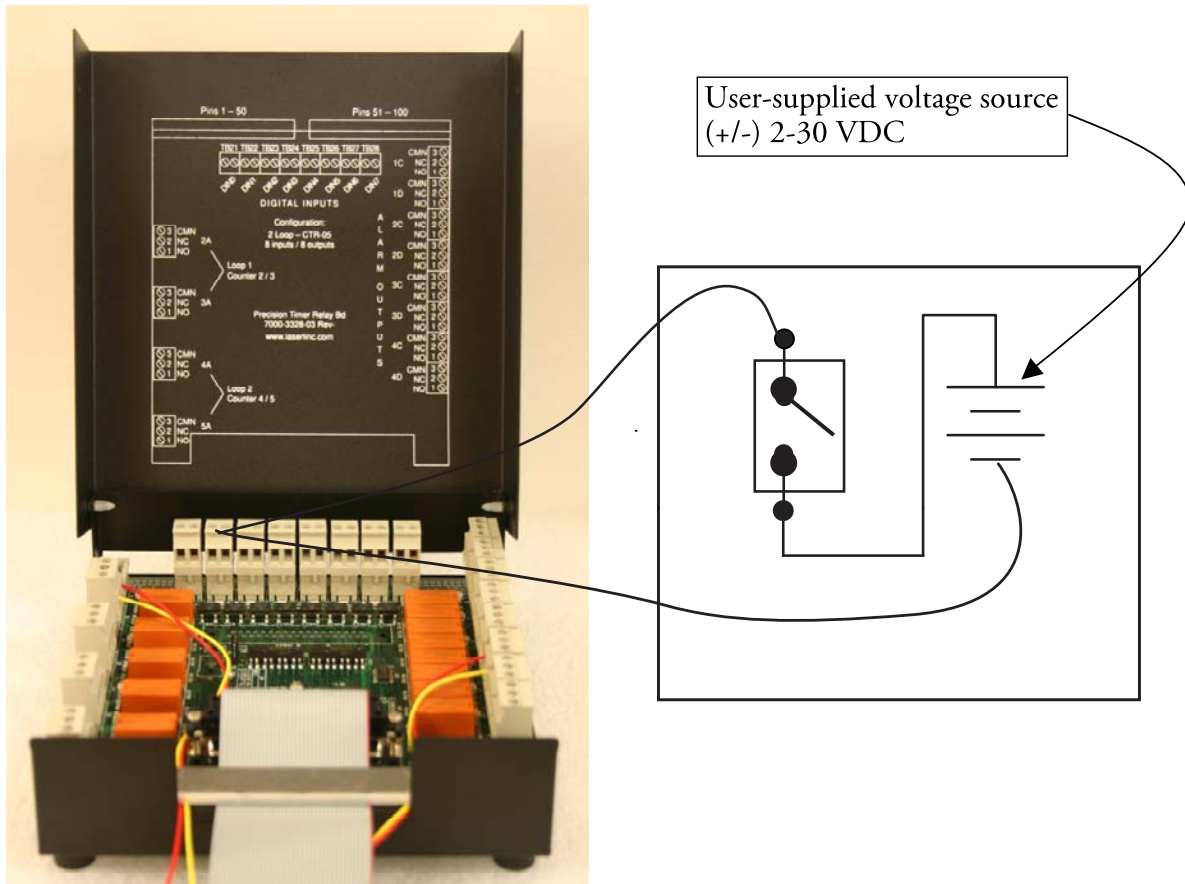

Figure 27. Wiring example.
1. Select the On Actions tab and select your desired On Action(s) in the list of available actions (*Part 1 in Figure 27*).
2. Off Actions tab (*Part 2 in Figure 27*).